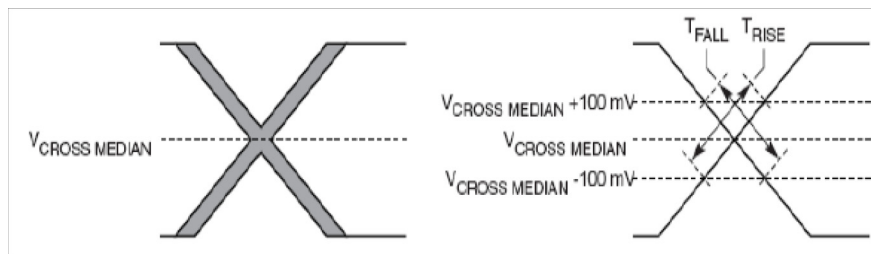

Figure 56. Single-Ended Measurement Points for Rise and Fall Time Matching
- Matching applies to rising edge for SD_REF_CLK and falling edge rate for $\overline{\text{SD_REF_CLK}}$. It is measured using a 200 mV window centered on the median cross point where SD_REF_CLK rising meets $\overline{\text{SD_REF_CLK}}$ falling. The median cross point is used to calculate the voltage thresholds that the oscilloscope uses for the edge rate calculations. The rise edge rate of SD_REF_CLK must be compared to the fall edge rate of $\overline{\text{SD_REF_CLK}}$, the maximum allowed difference should not exceed 20% of the slowest edge rate. See Figure 56.
Figure 56 shows the single-ended measurement points for rise and fall time matching.